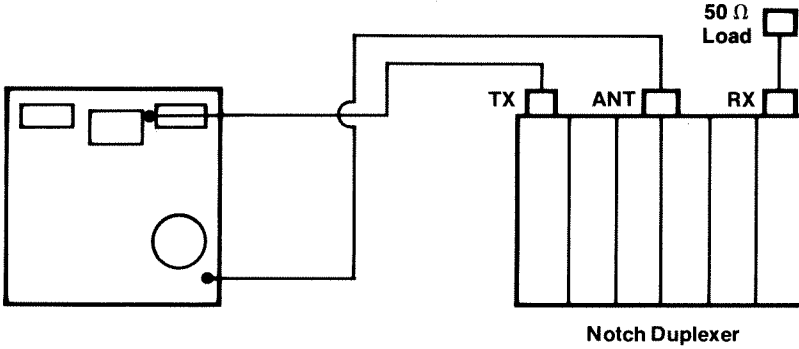
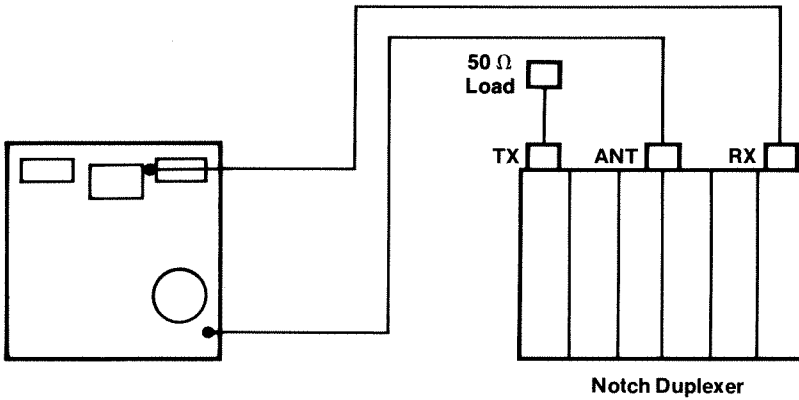

Figure 2
Figure 3
- ⑦ Adjust the SIG GEN FINE control to set the trace at the top of the CRT, nulling out the cable insertion loss.
- ⑧ Connect the SIG GEN OUT to the antenna connector on the duplexer. (See Figure 2).
- ⑨ Connect the ANT IN to the transmitter input connector on the duplexer. Terminate the receiver port with 50 Ω. (See Figure 2).
- ⑩ Tune the Tx side of the duplexer to put the notch in the center of the CRT. Set the HORIZ switch to 100 kHz/Div. for more resolution (see CRT Photo 1). Try and keep the bottom of the display above the -60 graticule on the CRT. This will keep the display out of the noise.
- ⑪ Move the coax connected to the ANT IN connector to the receive port and set the FREQUENCY SELECT switches to the transmitter frequency. Terminate the Tx port with 50 Ω. (see Figure 3).
- ⑫ Tune the Rx side of the duplexer to put the notch in the center of the CRT. Same as step 10.